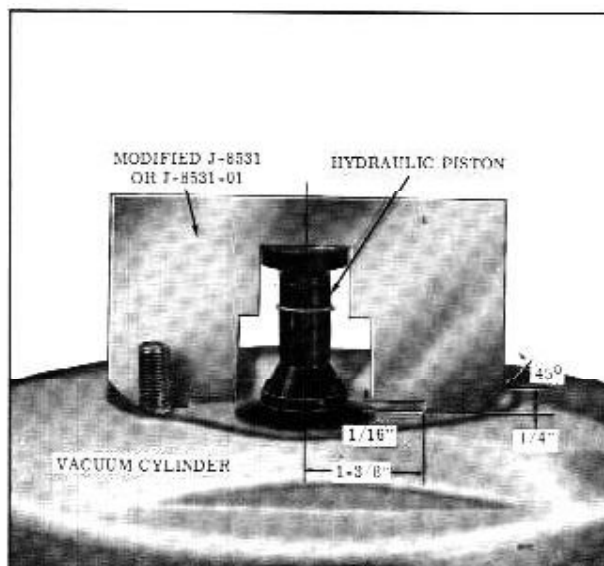

Fig. 7-5 Checking Piston Height
2. Place the gauge over the hydraulic piston with the legs of the gauge toward the mounting surface next to the stud on either side of the piston. (Fig. 7-5).